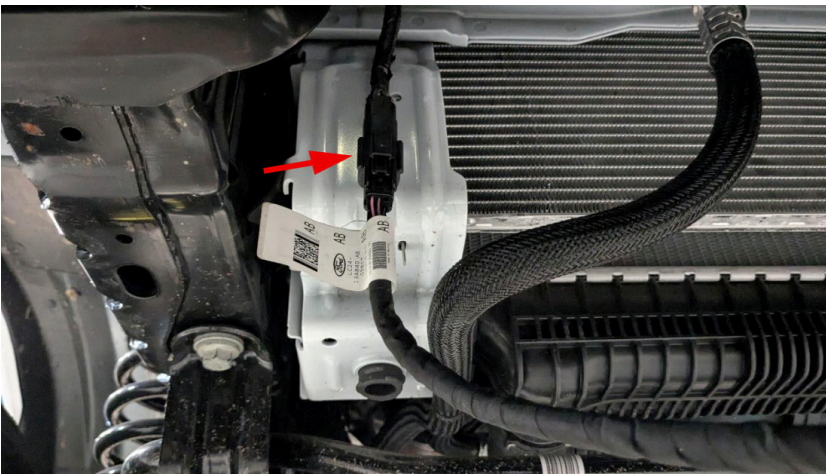

Figure 17
17. Reconnect the sensor wiring harness to the vehicle. Figure 17